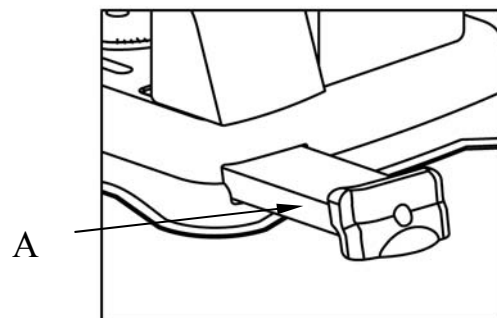

Fig.14
Take out the dust tank (A) as shown Fig.14 and clear it. Put into the dust tank deck again.